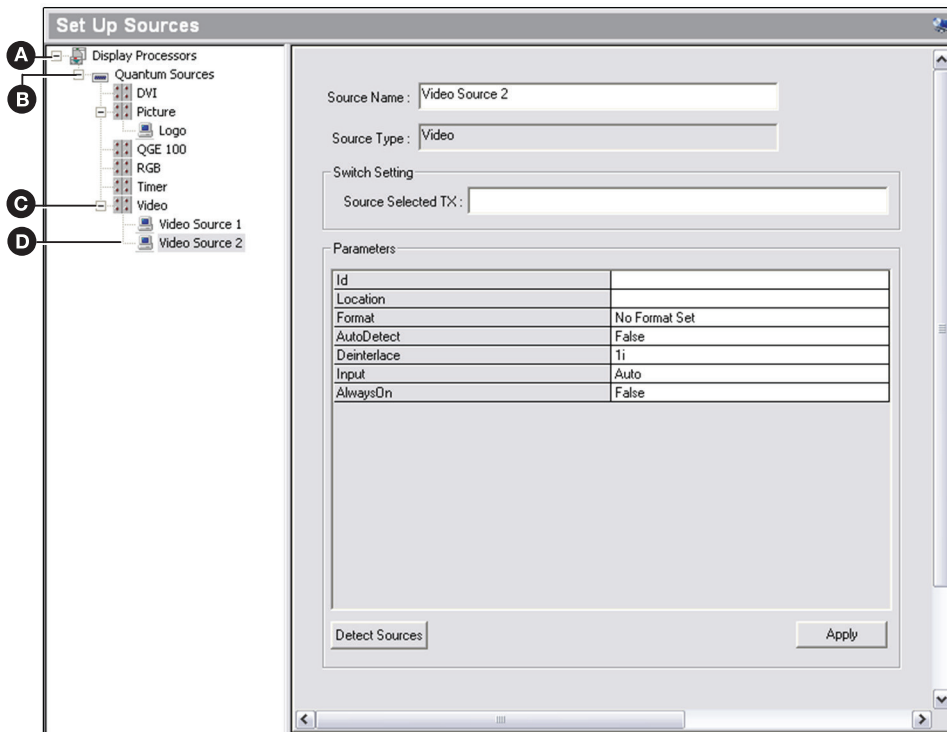

Figure 11. Set Up Sources Workspace
The source explorer tree, in the left panel of the Set Up Sources workspace, shows a list of source types supported by the Quantum processor. Source definitions are listed under the relevant source type. The source tree expands up to four levels as shown in figure 11. When you open the source explorer after creating an entirely new project (or for the first time after installation), no source definitions are listed.
2. Right-click the appropriate source type heading in the source explorer (**RGB**, **QGE 100**, **Video**, and so on) and select **Create New Source** from the drop-down menu. An empty source definition screen opens in the workspace (see figure 11 on the previous page for an example of a new video definition).
1. In the source explorer on the Set Up Sources workspace, select an RGB source (or create a new RGB source type and definition (see Creating Quantum Source Types and Source Definitions on page 22)). The definition screen for the selected source opens in the workspace (see figure 11 on page 22 for an example).